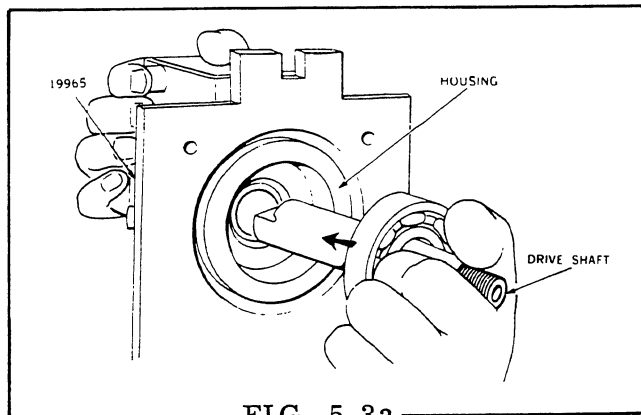

FIG. 5.3a
**STEP 3** Mount the pump housing in holding Fixture No. 19965. Never clamp the pump into a vise, always use a fixture. Lubricate the O.D. of the drive shaft bearing with mineral oil and install the drive shaft assembly into the housing (Fig. 5.3a). Do not force bearing into the housing bore.